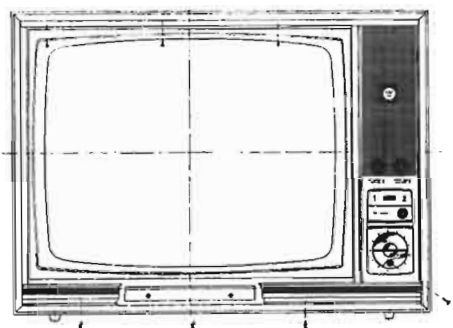

Fig. 1
1. - MODELLO WESTINGHOUSE 805T23 tr (fig. 1, 2 e 3)